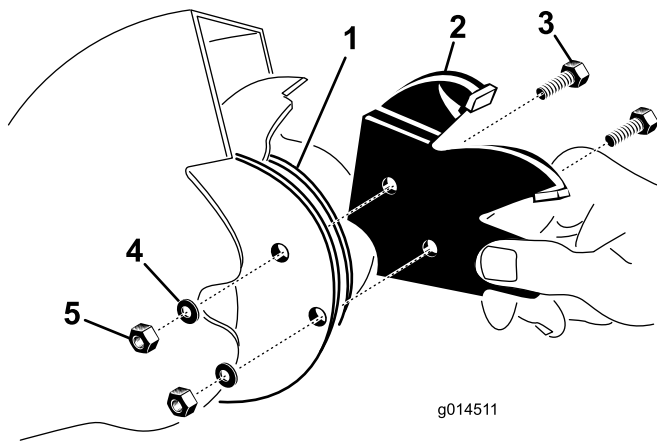

Figure 22
2. Remove the two bolts that hold each cutting blade section. Use care not to let a section drop and chip when they become loose (Figure 22).
4. Insert the blade section between the blade mounting flanges (Figure 22), and secure them with 2 bolts, lockwashers, and nuts.